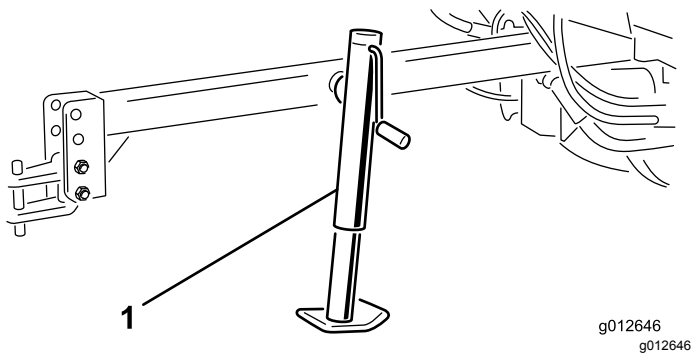

Figure 7
- Slide jack onto mounting tube on tongue (Figure 7).
2. Align holes in jack with holes in the mounting tube and secure the jack with the clevis pin (Figure 7).